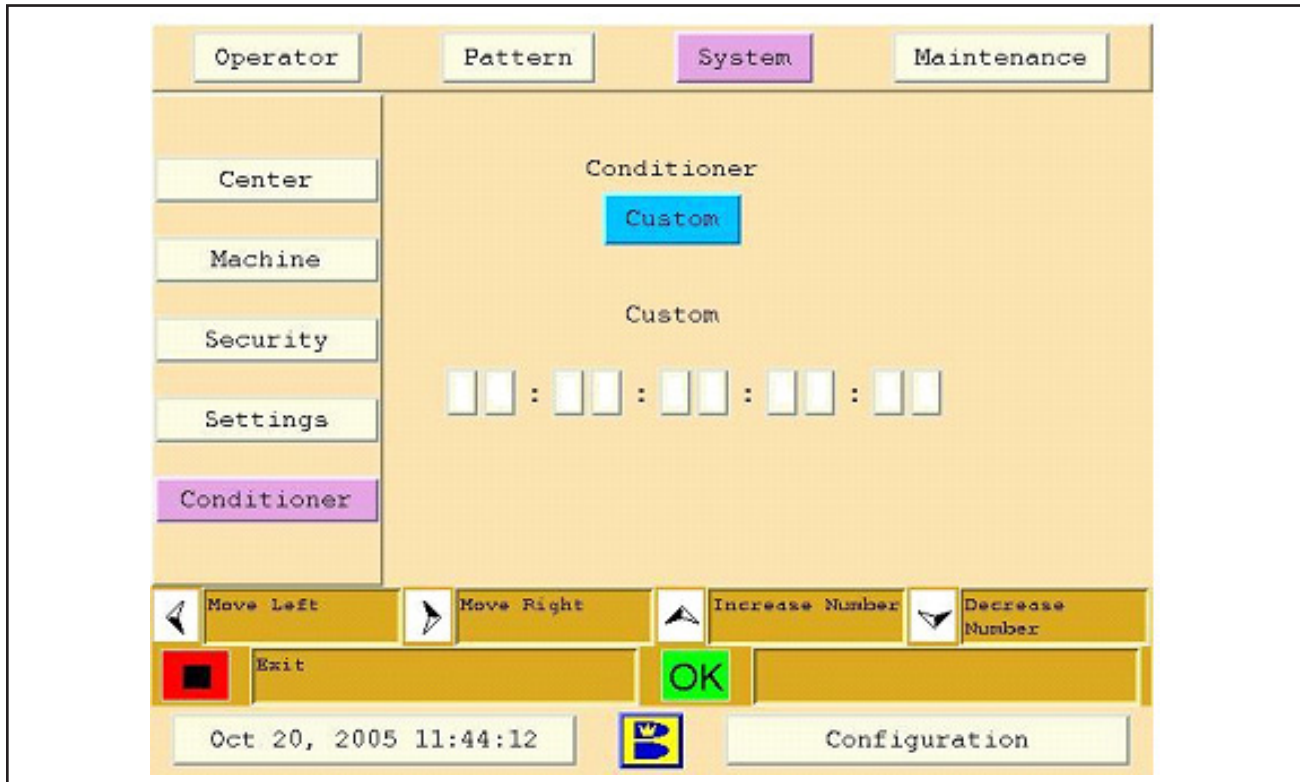

Figure 4-22. Conditioner
1. Go to the System menu. Refer to Figure 4-22.